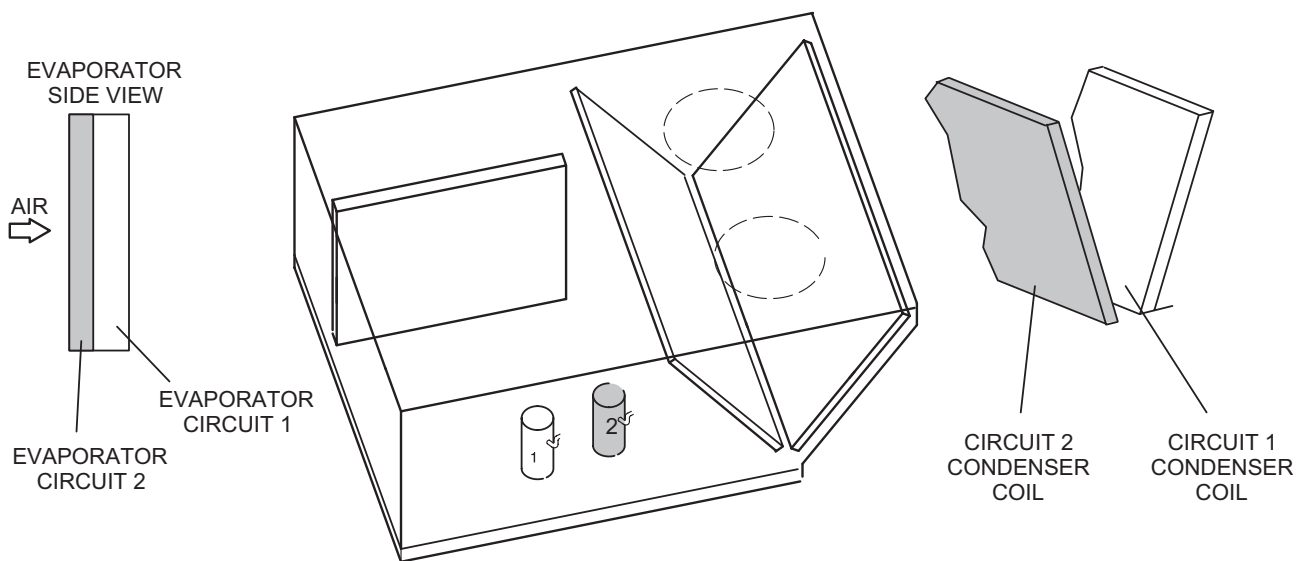

FIGURE 33
- 4 - SG/SC 120 units contain two refrigerant circuits and two stages of cooling. See FIGURE 33.